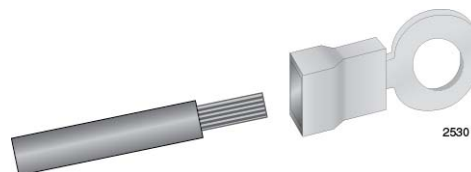

Figure 117. Attaching the Stranded Grounding Wire to the Grounding Terminal
2. Insert the grounding wire into the grounding terminal provided with the power supply and use a crimping tool to secure it to the grounding terminal. See Figure 117,